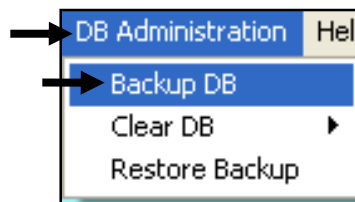

Fig. 10.1
- 1) Select the **Backup DB** option from the **DB Administration** menu (Fig. 10.1).